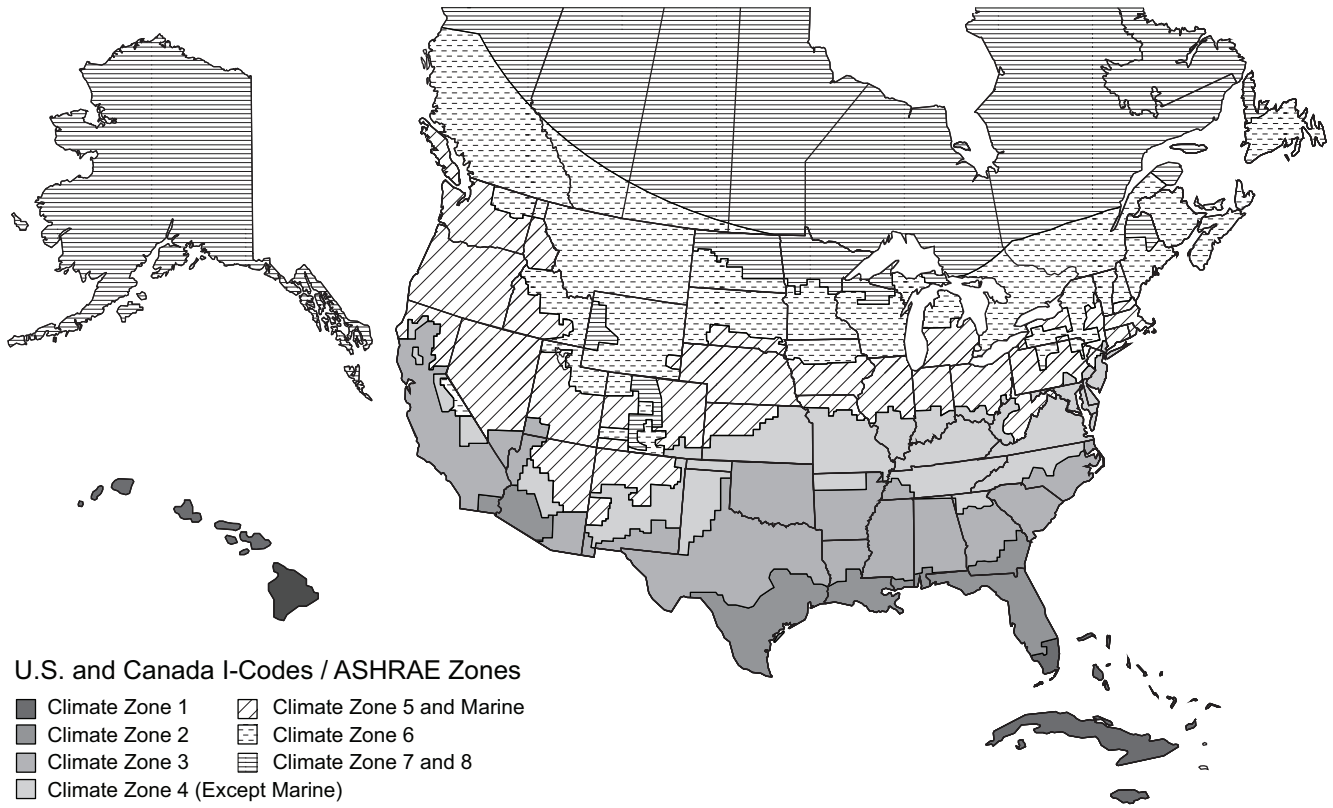

Fig. 98 – U.S. and Canada Climate Zones
- a. See Fig. 98 for map of U.S. and Canada climate zones.